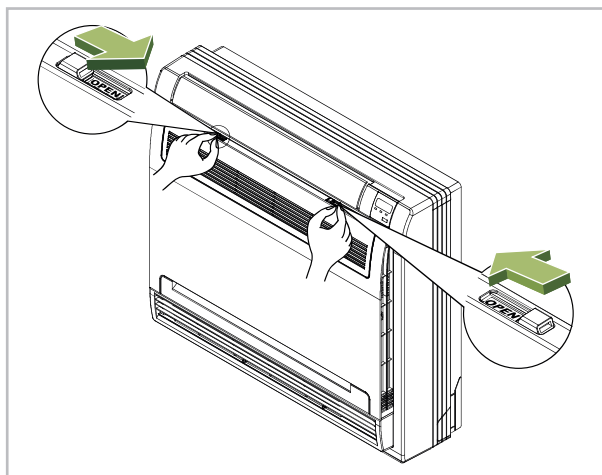

Fig. 7: Opening front panel
1. ➤ Switch the unit off and open panel (s. Fig. 7)